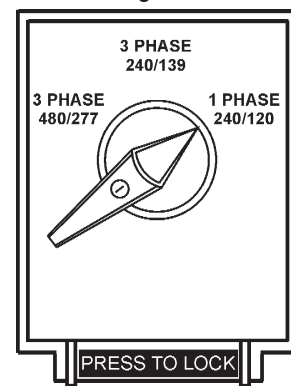

Figure 28. Voltage Selector Switch 240/120V Single-Phase Position
1. Place the voltage selector switch in the 1Ø 240/120 position as shown in Figure 28.